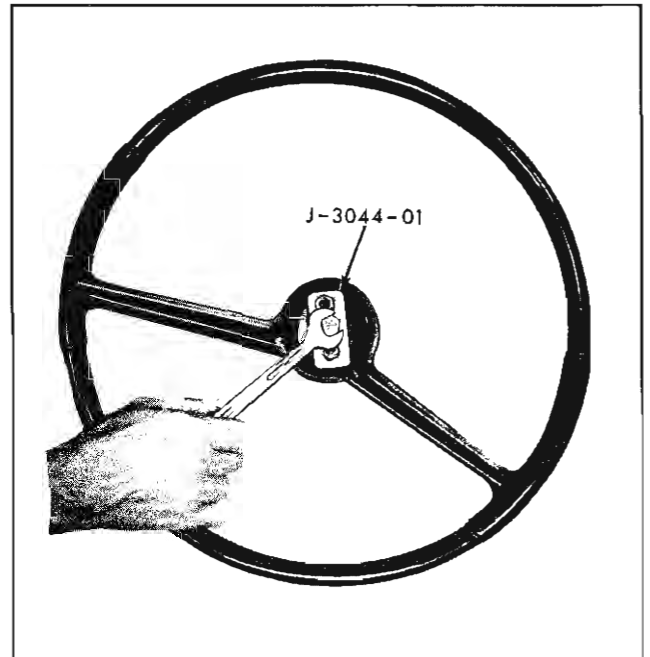

Fig. 9-6 Pulling Steering Wheel
7. Remove steering wheel using Puller J-3044-01 (Fig. 9-6).